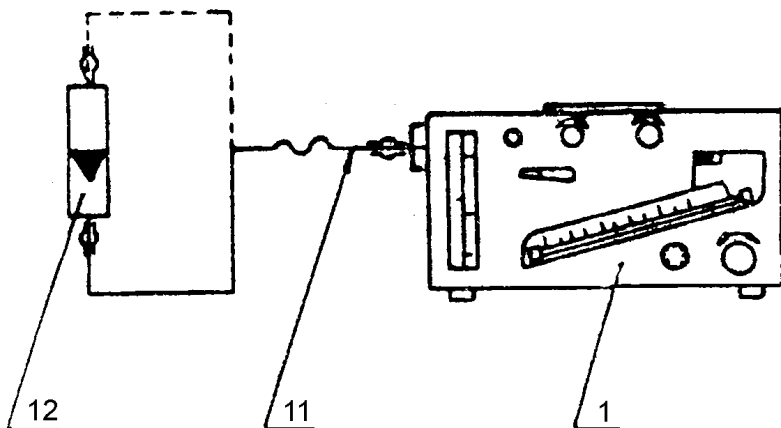

Fig. 13. Test set-up for defining of the flowmeter error:
10.4.10 To define the flowmeter error, couple a rotameter with the Instrument's pipe connection, as shown in Fig. 13. Set the «КЛИАПА» lever into «ОТКР.» position, КР handwheel into «МАНОМЕТР» position, КЭ handwheel into «ОТСАС.» position and «ПОТОК» hand-wheel rotate into «МЕНЬШЕ» direction against a stop. Pipe connection of the pressure gauge flowmeter should be shut. Open the cylinder valve and create such a flow in the Instrument by the «ПОТОК» handwheel rotation, that the upper (black) flowmeter float should stop against the black mark. Define the flow rate by a rotameter with accuracy higher than 0.1 l/min. Increase the flow in such a way, that the lower (red) flowmeter float stops against marks 6, 7, 9, 10 and 15 (change rotameter if needed). Every flow rate define by a rotameter with accuracy higher than 1 l/min. The error should be less than 10 % of the nominal flow rate value.